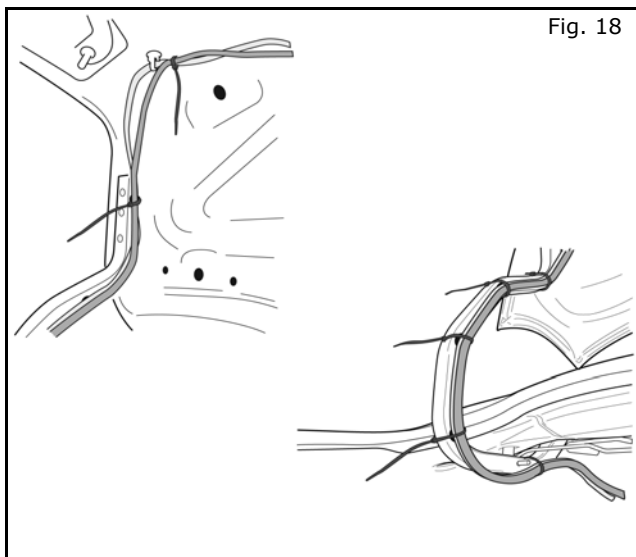

Fig. 18
- d) Using small wire ties secure jumper harness to existing harness . (Fig 18)